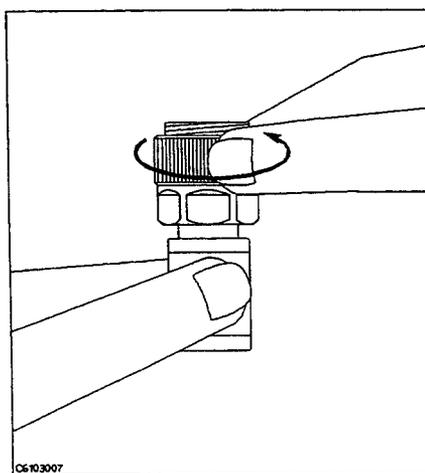

Figure 4-9.
11. Turn only the APC-7[®] connector nut of the $50\ \Omega$ termination as shown in Figure 4-9.